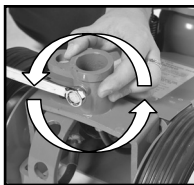

Fig.6
5. Remove the bolt under the handle yoke. (Fig. 6)